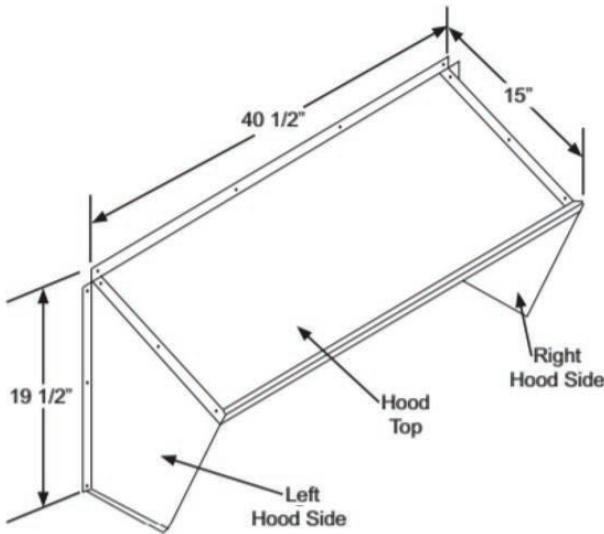

Fig. 33 — CRBARTHOD001A00 Hood Sides and Top
5. Using the provided hardware, screw the CRBARDH001A00 hood sides and top together (see Fig. 33).